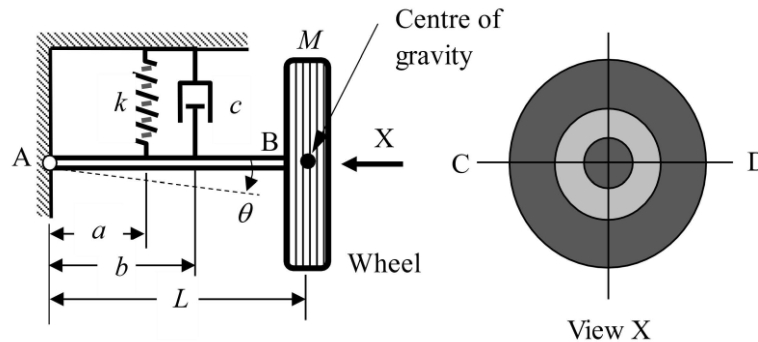

Figure 3
- 3 (a) Figure 3 shows a table-top model of the suspension system of a car in static equilibrium configuration. The wheel has a mass of  $M$  and is suspended using a spring of stiffness  $k$  and a damper of damping constant  $c$  as shown. The axle AB carries the wheel at B and is pin-jointed to a rigid support at A. The axle is rigid and its mass can be ignored in comparison with the wheel mass  $M$ . The mass moment of inertia of the wheel about axis CD (that passes through the centre of gravity of the wheel) is  $I$ . Treat the suspension system as a 1-DOF vibrating system.